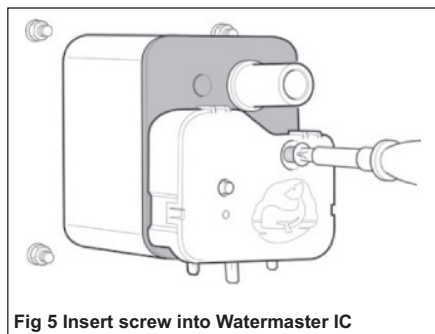

Fig 5 Insert screw into Watermaster IC
- Step 6 - Plug Watermaster IC onto socket (see Fig 5) and tighten screw (**NB** - Do Not Overtighten)